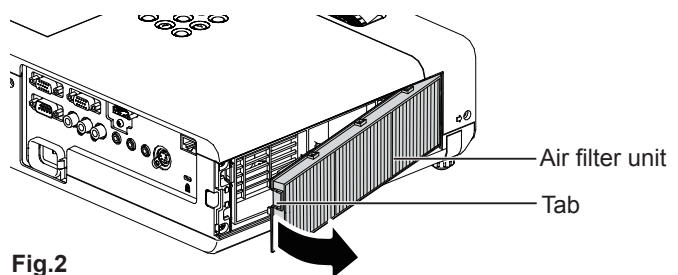

Fig.2
- Hold the tab of the air filter unit and pull out in the direction of the arrow. (Fig.2)